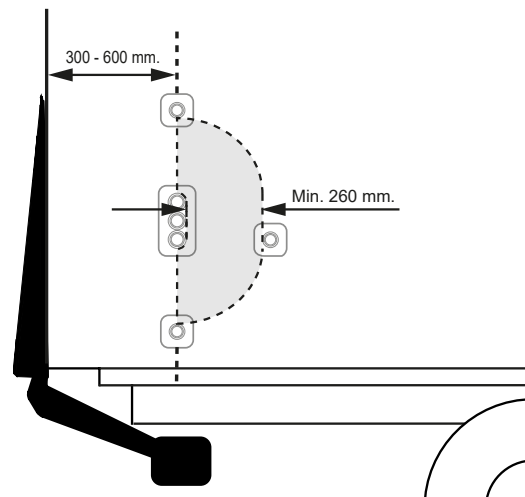

Figure 48. Installing controller CD 1 with two-handed grip.
2. The distance between the vehicle's rear edge and the centre of the controllers must be 300-600 mm. The distance between the controllers must be at least 260 mm. See Figure 48.